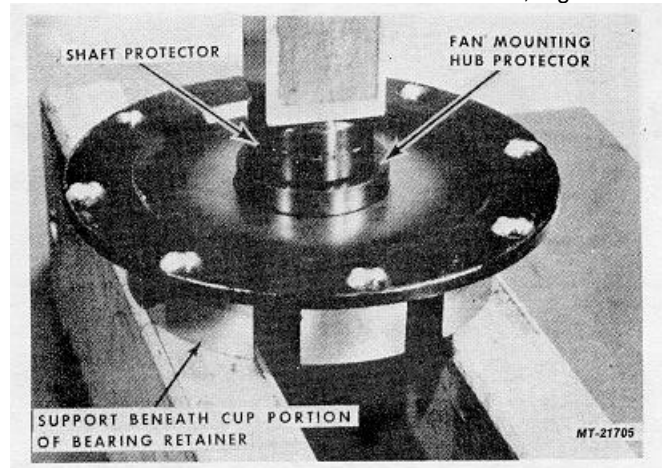

Fig. 13
10. Center shaft protector SE-2782-8 and Fan Mounting Hub Protector SE-2782-3 as shown on Oil Seal, Fig. 13.